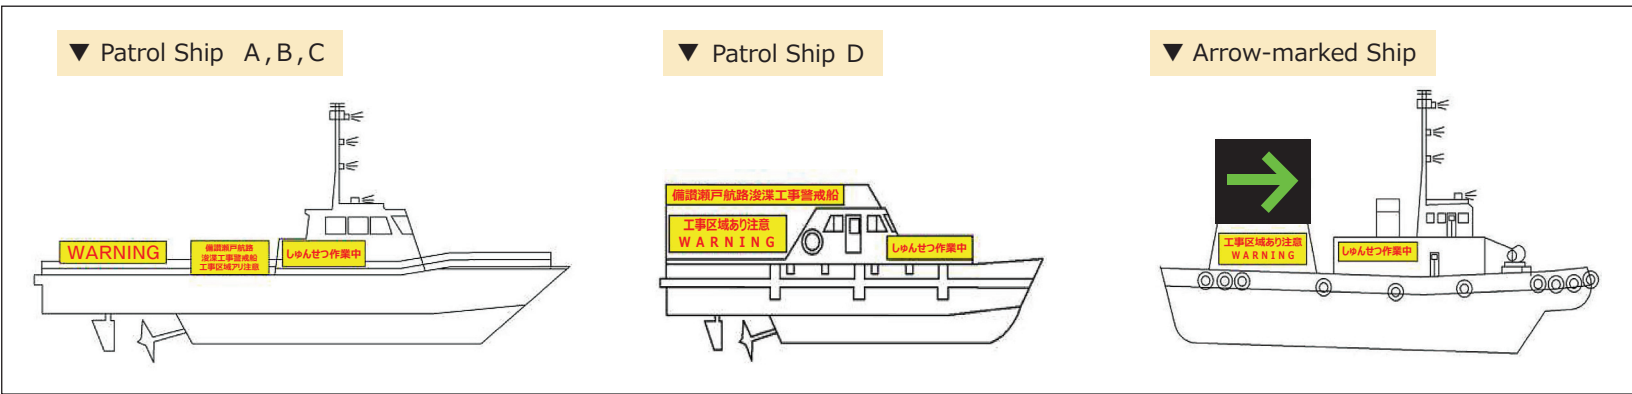
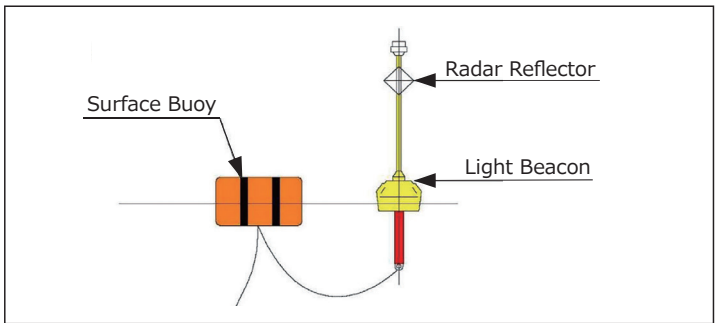

Fig. 4. Image of Patrol Ships & Arrow-marked Ship
Fig. 5. Surface Buoy & Light Beacon
- (4) The patrol ships, etc., will display markings as shown in Fig.4. The arrow-marked ship will be equipped with an electrically-illuminated signboard indicating the navigable waters.
- (5) Patrol ships A~D will be equipped with Marine VHF Radio.
- (6) The pump dredging ship will drop anchor within the dredging work zone as shown in Table 1. A surface buoy and light beacon (with synchronized blinking) will be installed at the location of the pump dredging ship's anchor, as shown in Fig. 5, to clearly indicate the working zone.
- (7) At night, and on days when dredging work is not conducted, the dredging work ships will anchor outside the Bisan Seto Traffic Route. In the event of anchorage, ships will be lit with legally designated lighting and additional indirect lighting while anchored at night.
- (8) During the dredging work, the movements of the work ships and general vessels will be monitored, a Safety Management Office that coordinates with the relevant agencies will be established, and the safety of the marine area around the working zones will be ensured.